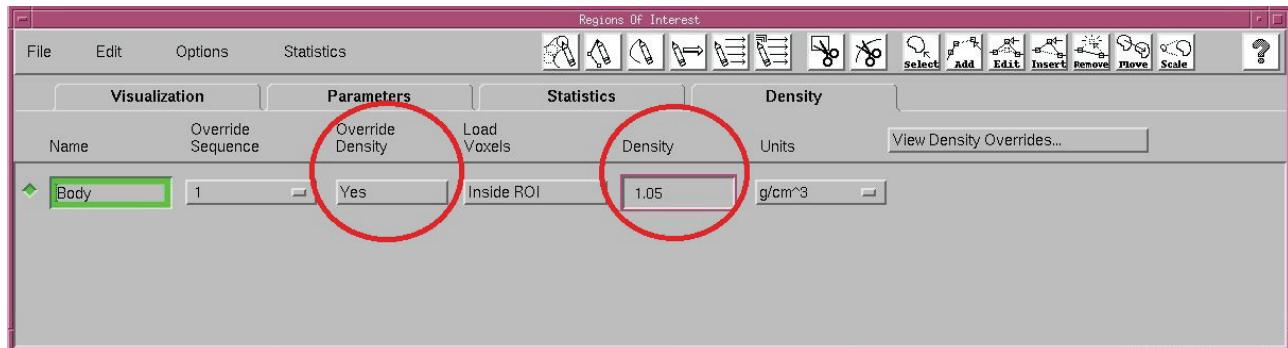

Fig. 2.11 Regions Of Interest window
8. The **Regions of Interest** window appears (Figure 2.11). Here, the phantom correct physical density (1.05 g/cm^3) has to be set.